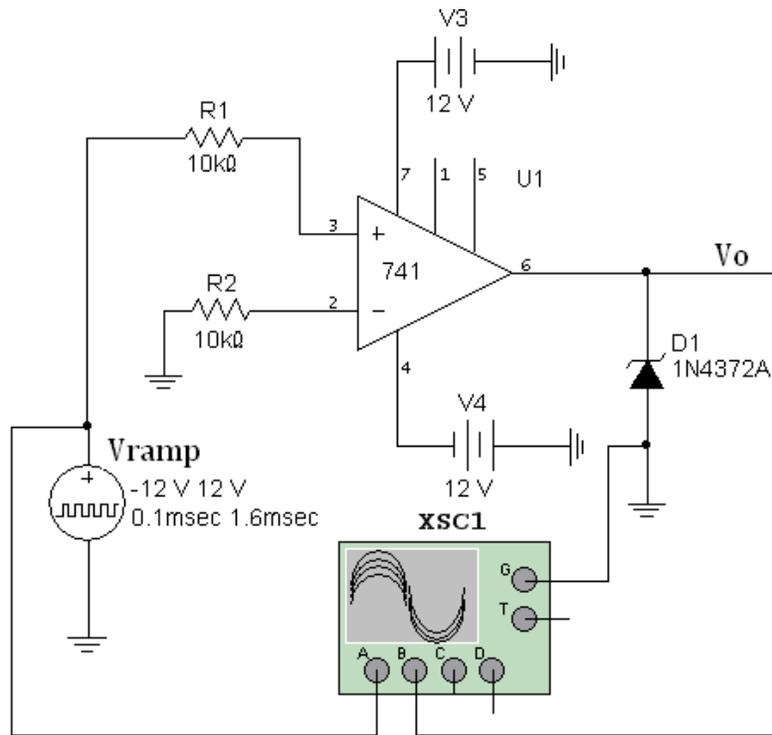
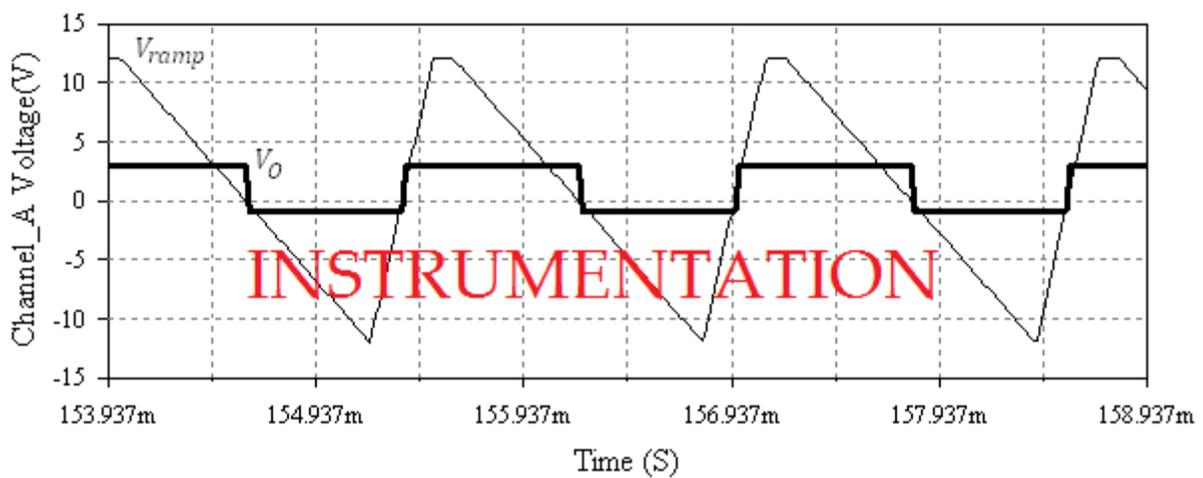

Figure 9: Simulated circuit of the ground comparator with a Zener diode 1N4372A having $V_Z = -3V$ and $V_{D(ON)} = 0.6V$
Figure 10: Time diagrams explaining the ground comparator operation
The ground comparator circuit was simulated by MULTISIM as shown in Fig. 9. The time diagrams explaining its operation are shown in Fig. 10. We can see that the output voltage, V_o , is equal to $-V_Z=3V$ (logic 1) each time when $V_{ramp} > 0V$.
2. Construct and simulate the circuit of the ground comparator with a Zener diode 1N4372A having $V_Z = -3V$ and $V_{D(ON)} = 0.6V$ as shown in Fig. 9..